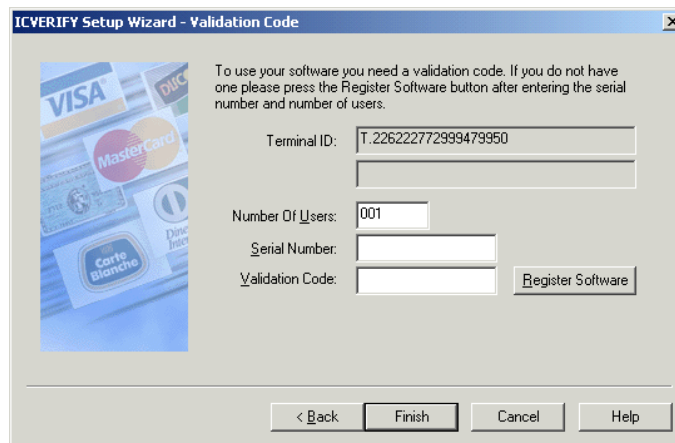

Figure 4.0.3-2: Serial Number & Validation Code
45. Left-click “Next” to proceed to the “Validation Code” window (see **Figure 4.0.3-2** below).